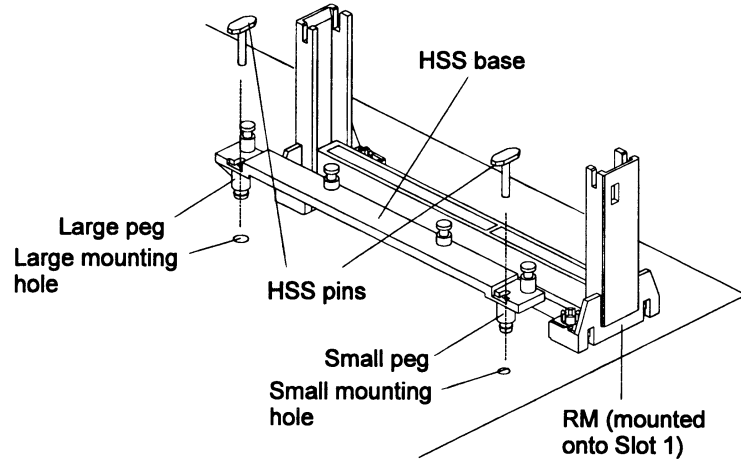

Figure 2-10: The large and small HSS mounting holes on the motherboard.
1. Locate the Heat Sink Support (HSS) mounting holes on the motherboard. Note that one hole is larger than the other. See Figure 2-10. Then, line up the two plastic pegs on the bottom of the HSS base with the corresponding holes on the motherboard. Note that one peg is larger than the other.
3. Insert the HSS pins through the HSS base to secure it to the motherboard (see Figure 2-10).